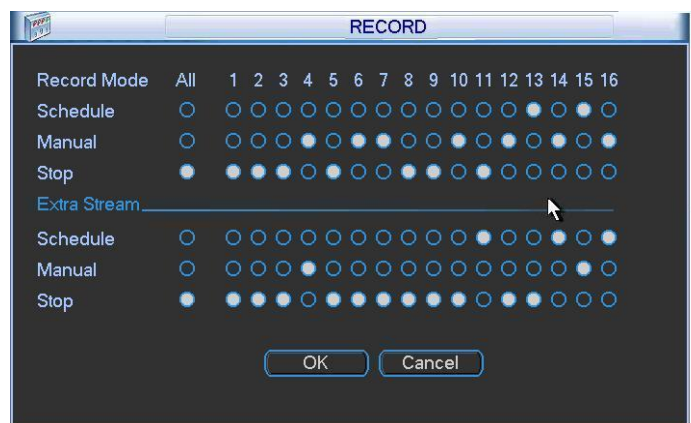

Figure 5-41
- a) Right click mouse or in the main menu, Advanced->Manual Record. Manual record menu is shown as in Figure 5-41.